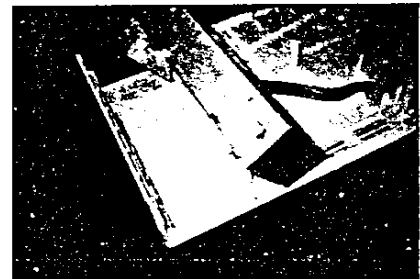

Fig. 3-1. Power Supply Insertion
3.1.1 To install the power supply into the bottom case, insert the assembly on an angle to engage the slots in the bottom case. See Fig. 3-1.